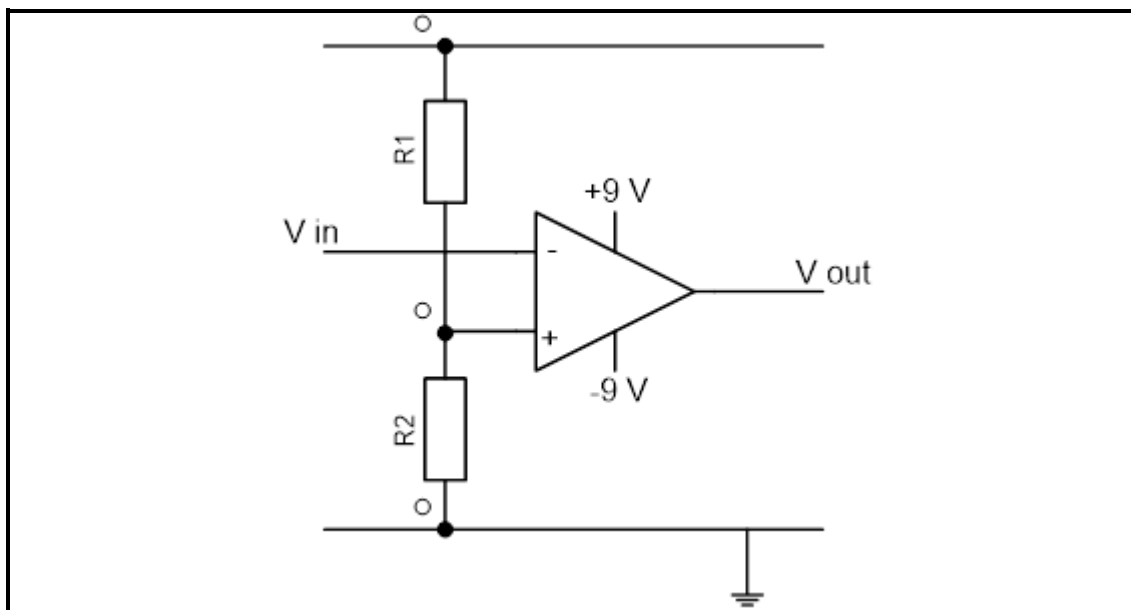

FIGURE 5.10: ELECTRONIC CIRCUIT
5.10 FIGURE 5.10 shows an electronic circuit.
5.10.1 Identify the circuit in FIGURE 5.10. (1)
5.10.2 Describe the principle of operation for the circuit shown in FIGURE 5.10. (4)
5.10.3 Name TWO practical applications where the circuit in FIGURE 5.10 forms the basis of the application. (2)